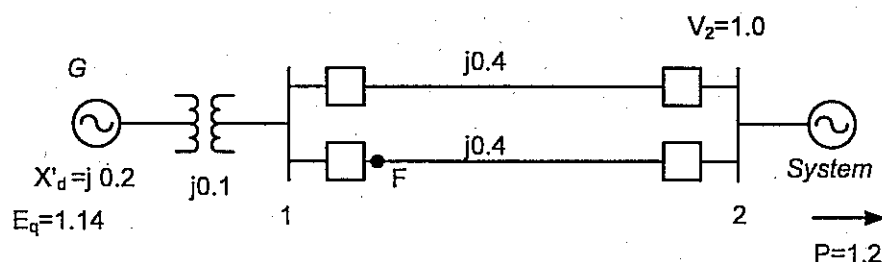

Figure Q1
- II. A 50 Hz, 200 MVA turbogenerator G is connected to a large system via transformer and double circuit transmission line as shown in figure Q1. The inertia constant of the generator is 8 MJ/MVA. The parameters of elements of the system on common base are indicated in the figure. Power delivered to the system is 1.2 p.u. The excitation voltage of the generator and voltage at the system bus are 1.14 p.u and 1.05 p.u respectively.